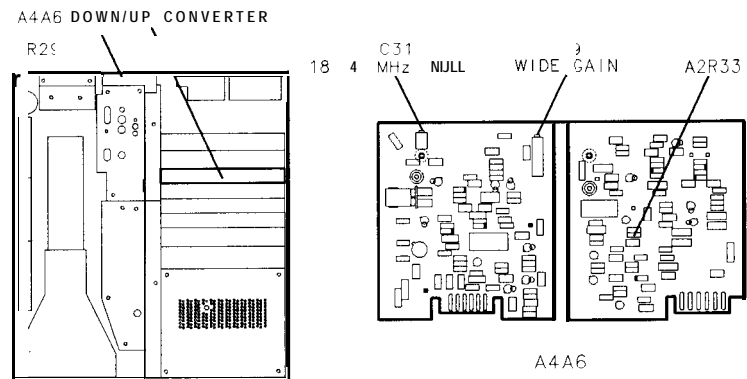

Figure 3-51. Location of Down/Up Converter Adjustments
- Adjust A4A6A1R29 WIDE GAIN to align markers on CRT display. MKR A level should indicate 1.00 X. See Figure 3-51 for location of adjustment.
- Adjust A4A6A1C31 18.4 MHz NULL to null the 18.4 MHz Local Oscillator signal and all displayed harmonics. See Figure 3-51 for location of adjustment.